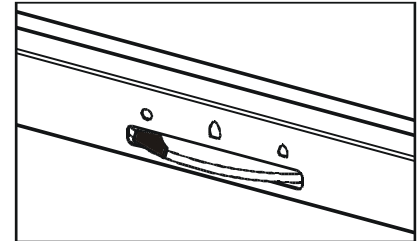

Figure 14 - Adjustment of air register
- Open the primary air register completely (turn completely to the left) fig.14
- Only once the flame is burning well (presence of a bed of coals and full combustion), place the air adjustment between the two flames (see fig.14) large flame to obtain nominal power, small flame for slow combustion.